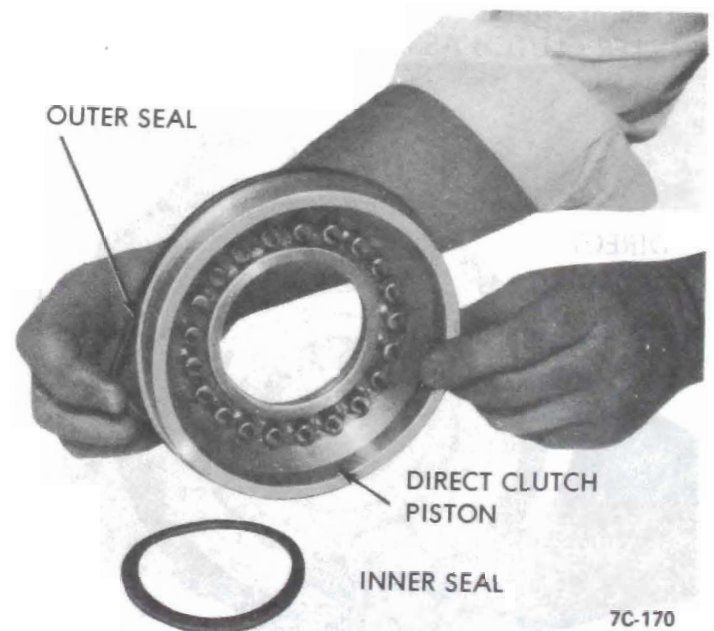

Figure 7C-172
11. Remove direct clutch piston inner and outer seals. See Figure 7C-172.